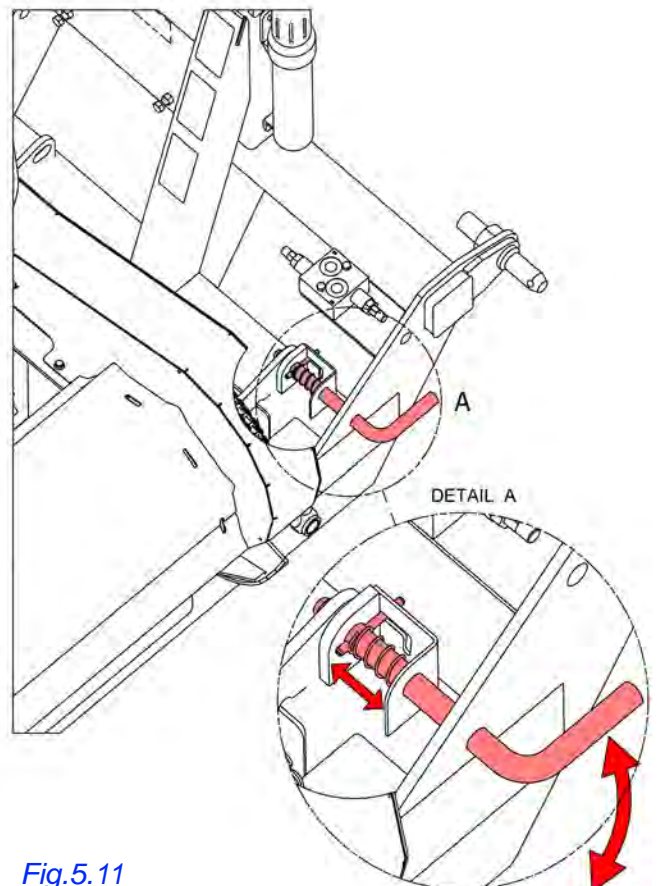

Fig.5.11
NOTE: If you have not pulled out the transport pin the whole wrapper will raise off the ground instead of tilting. Refer to Fig.5.11 to unlatch this pin.
1. Lock turntable by turning and pushing in the transport lock pin. See Fig.5.11.